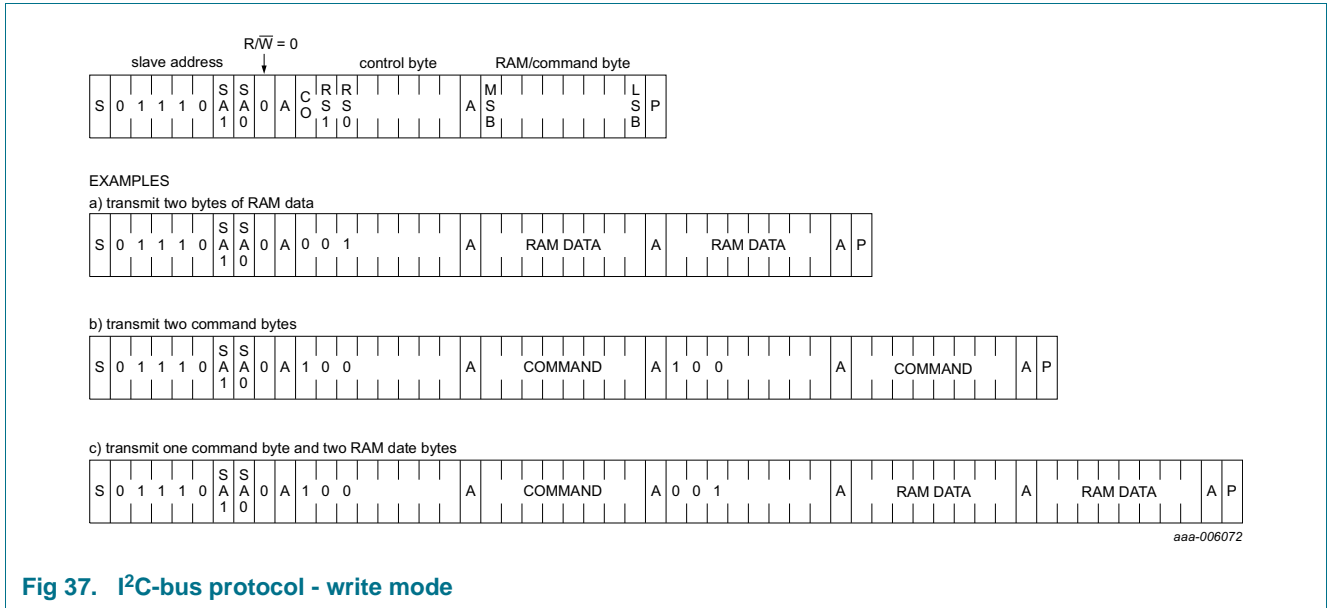

Fig 37. I²C-bus protocol - write mode
The I²C-bus protocol is shown in Figure 37. The sequence is initiated with a START condition (S) from the I²C-bus master which is followed by one of the four PCA8530 slave addresses available. All PCA8530 with the corresponding SA1 and SA0 level acknowledge in parallel to the slave address, but all PCA8530 with the alternative SA1 and SA0 levels ignore the whole I²C-bus transfer.